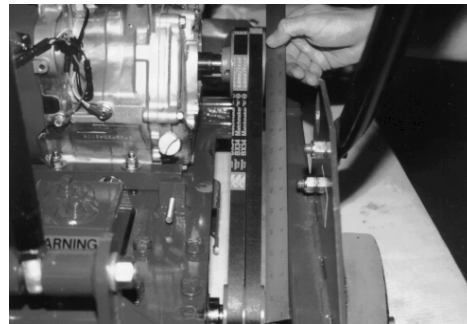

FIGURE 38
8) Belt alignment is checked with the straightedge. Place the straightedge squarely against the arbor shaft pulley. Properly aligned pulleys should also place the straightedge squarely against the engine/electric motor pulley. Remove the straightedge and rotate the engine pulley 120 degrees. Recheck the alignment with the straightedge. Repeat the process until the engine/electric motor pulley has been rotated a full 360 degrees. Maximum allowable misalignment is $\pm 1/32$ inch. FIGURE 38.